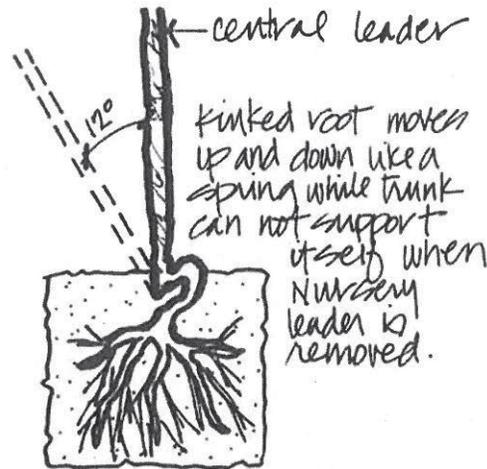

Figure 1 - Kinked Root
- There should not be any large kinked roots. If a taproot or major branch root is bent more than 90 degrees, and less than 20% of its lateral roots are above the kink, it should be rejected. The root ball will probably not provide good support for the trunk when the stakes are removed. (See Figure 1).